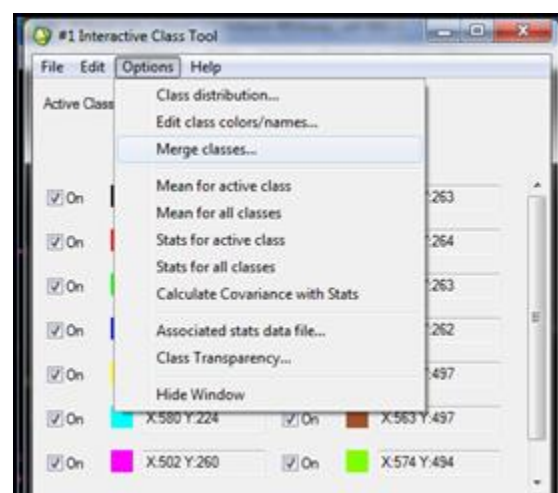

Figure 5.8e. Options Drop-Down Menu
- Select Merge classes (Figure 5.8e).